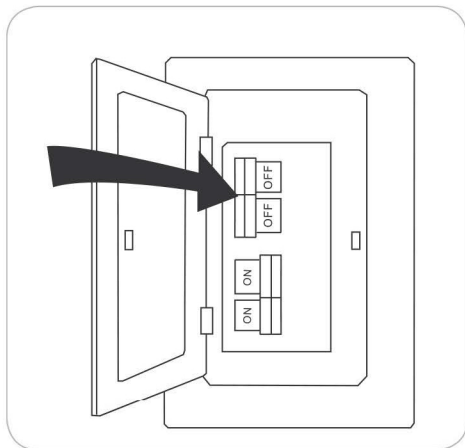

Figure 1.1
1. Turn off power to the fan at the breaker box and the wall switch (Figure 1.1). **DANGER:** Failure to disconnect the power supply prior to installation may result in serious injury or death.
Depending on your room's roof structure: Choose concrete ceiling or wooden ceiling mounting bracket screws (Figure 1.1/ Figure 2.2).